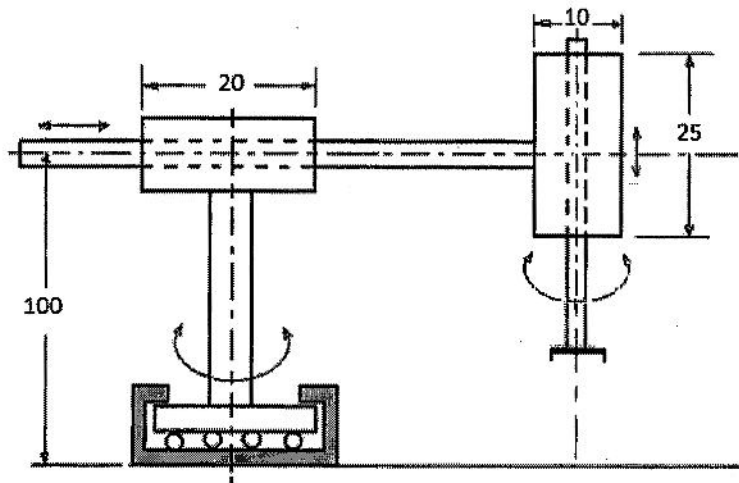

Fig. Q2
2. A 4-DOF manipulator is shown in Fig. Q2 The tool is required to assume position and orientation during its operation, which are represented by the transformation matrix T . Determine by the method of inverse kinematics the necessary joint displacements that are to be given to the actuators.